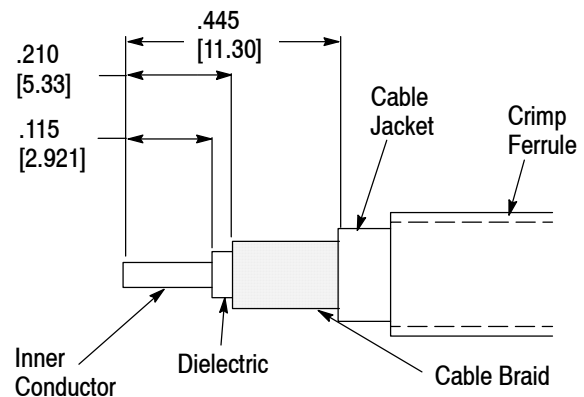

Figure 7
2. Strip the cable according to the dimensions in Figure 7.